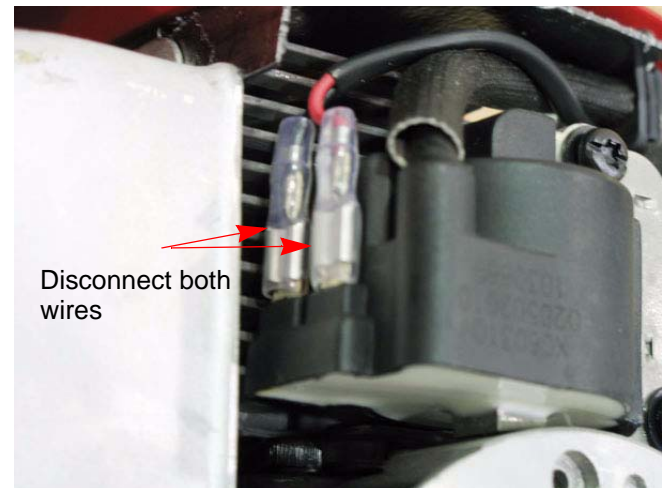

Figure 4.2
- 2c. Disconnect both wires. See Figure 4.2.